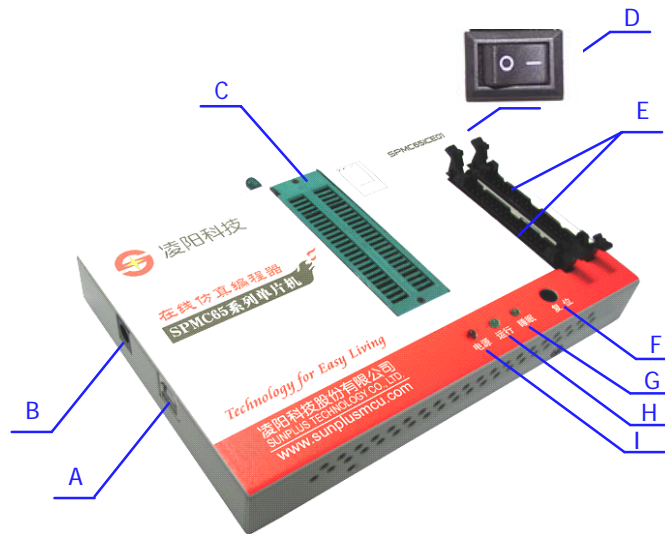

Figure 1-1 SPMC65X In-Circuit Emulator
The In-Circuit SPMC65X In-Circuit Emulator for SPMC65x family is shown as Figure 1-1.
Just connect a USB cable square end to the SPMC65X In-Circuit Emulator (A in Figure 1-1) and the flat end to PC USB interface.
- A switch shown as 'A' in Figure 1-1 is used to switch the supply power. While switching to "OFF" side, the supply power of SPMC65X family SPMC65X In-Circuit Emulator is independent of user's target board. The working power of SPMC65X
In-Circuit Emulator is 5Vdc converted from DC-9V adaptor input, shown as 'B' in Figure 1-1. In this operation, SPMC65X In-Circuit Emulator and user's target board have a common ground and independent power supply.
- While switching to "ON" side, shown as 'D' in Figure 1-1, SPMC65X In-Circuit Emulator and target board have the same VCC and GND. User can select the working power supplied from DC-9V adaptor ('B' in Figure 1-1) or user's target board.
- Check the SPMC65X In-Circuit Emulator being not powered (in B of Figure 1-1), then switch the power (in D of Figure 1-1) to "ON". Supply power to the target board, and in this operation, SPMC65X In-Circuit Emulator and user's target board have a common power supply.
The power indicator on the SPMC65X In-Circuit Emulator (see I in Figure 1-1) is lighted when the emulator is powered on.